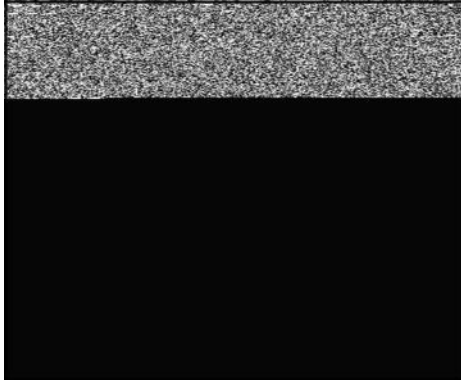

Figure 4
5. Place NEW ring in groove (Figure 4) and, using a feeler gauge, measure space between ring and ring land. Compare with reject dimensions listed in Section 12 -